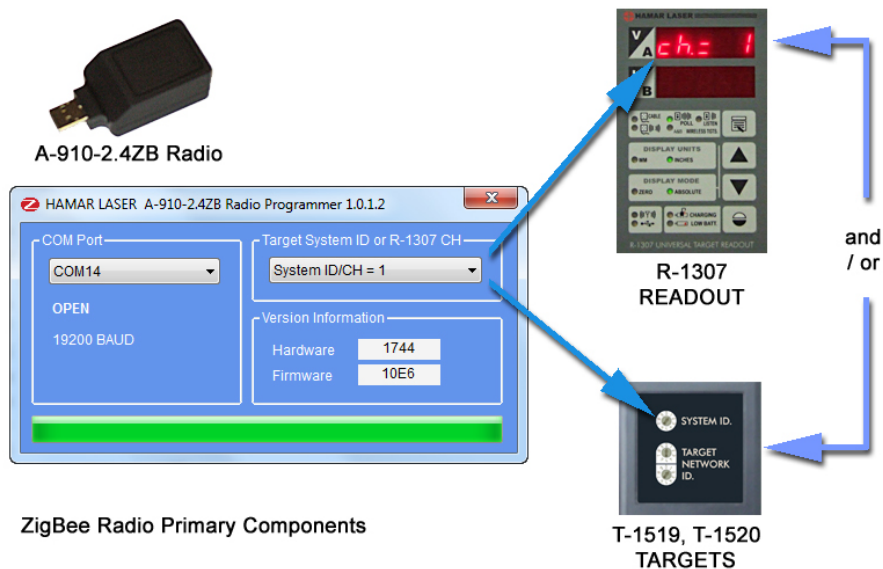

Figure 9 – System ID Setup
3. The Target System ID or R-1307 CH (channel) is the number associated with the A-1519/1520 targets or R-1307 Readout. If using both the A-1519/1520 targets and an R-1307 Readout, both need to be set to the same system ID and channel (see Figure 9). Also see the R-1307 user manual for more information.